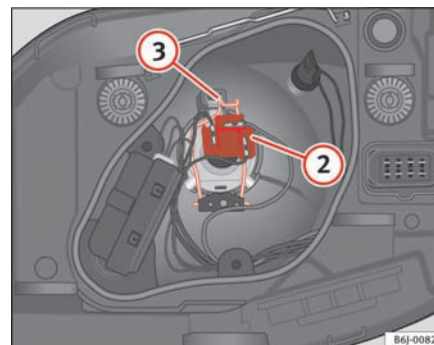

Fig. 139 Dipped beam / main beam, single light
- Remove the connector ⇒ page 220, fig. 139 ② from the bulb.
- Disengage the retainer spring ⇒ page 220, fig. 139 ③ by pressing it inwards to the right.